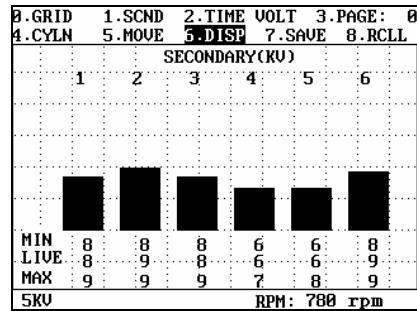

Fig.4-19
**Bar graph:** It is to display the maximum voltage of each cylinder in the form of the bar graph and value. The bar graph of secondary ignition waveform is as shown in Fig.4-19.